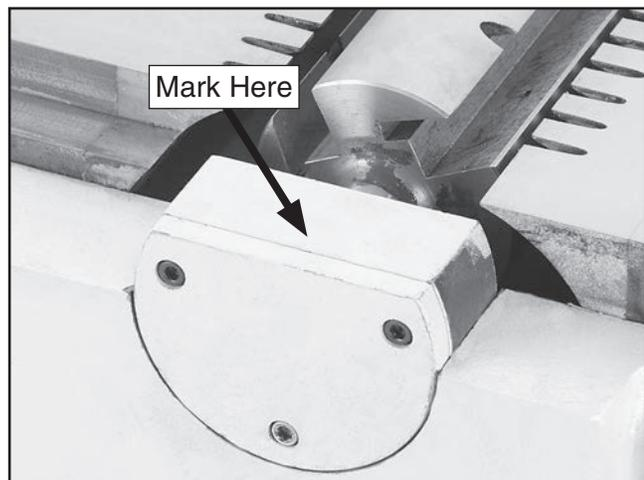

Figure 10. Location to mark front bearing block.
18. Mark the side of the front bearing block that faces the front of the machine (**Figure 10**) with tape or a felt marker, to make it easier to reinstall the bearing blocks later.